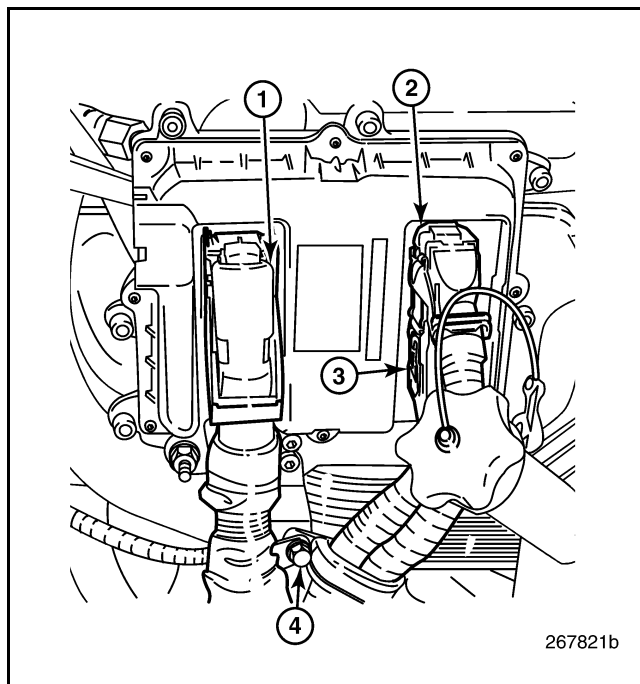

Figure 130 — EECU Connectors
3. Disconnect the wiring harness connectors from the EECU (Figure 130).